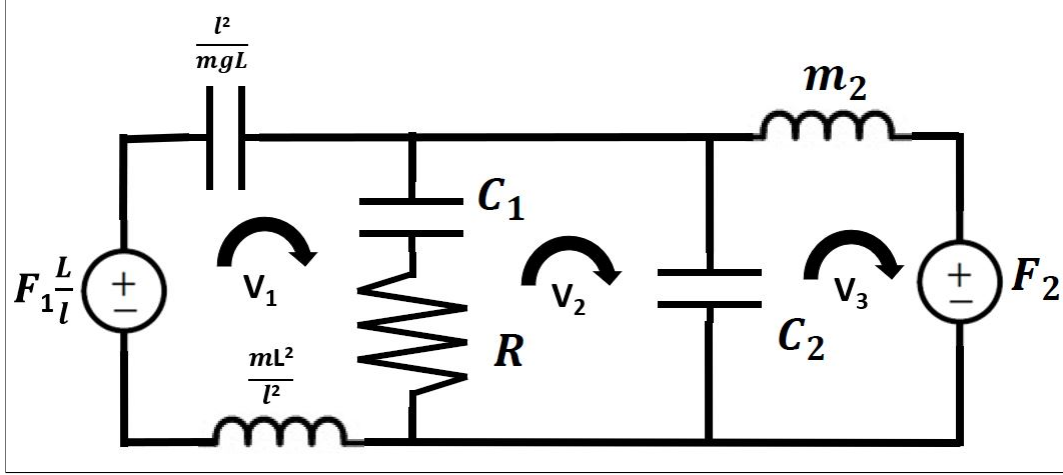

Figure 9: Electrical Equivalent Circuit of 2 as one circuit
In the LaPlace Domain, unique equations of the circuit can be written using mesh analysis in Equation (13). Look at Figure 9 for the labeled velocities currents: v_1, v_2, v_3 .